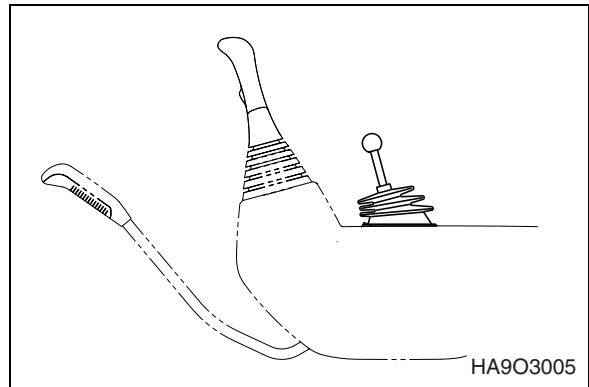

Figure 13
1. Run engine at "LOW IDLE" (no load) for 5 minutes (Figure 13).